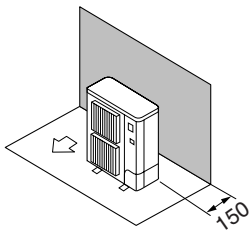

Fig. 3-5
- ① Obstacles at rear only (Fig. 3-5)